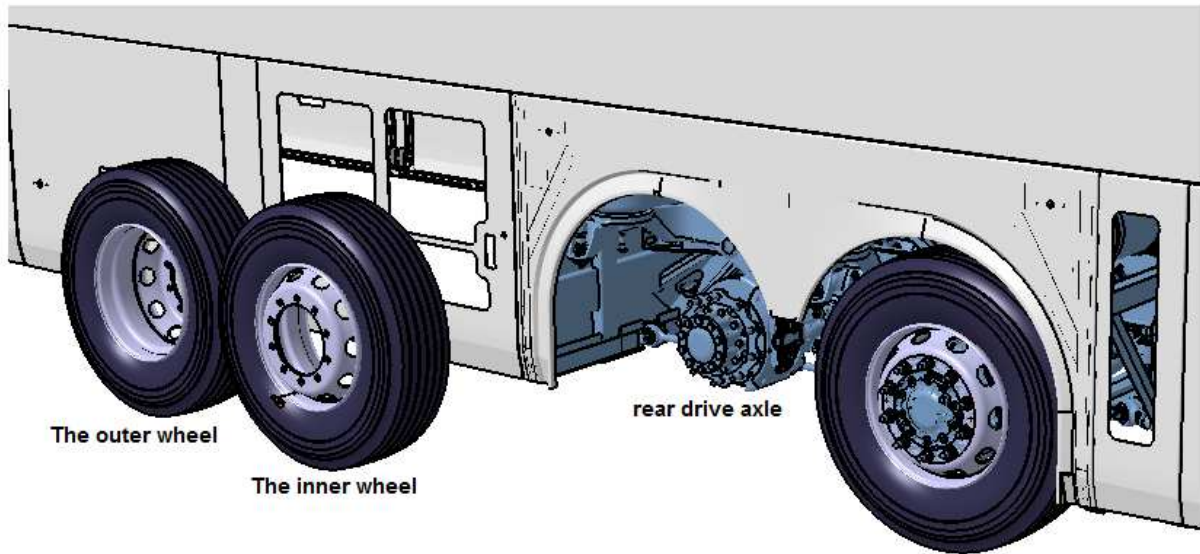

Figure-3
* Remove dual wheels from drive axle shown in Figure-3.